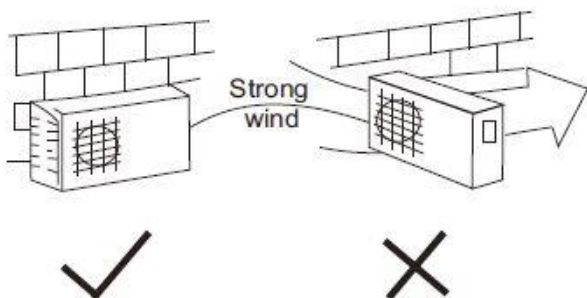

Fig.12
- Bundle the tubing, connecting cable and drain hose securely and evenly with tape as shown in Fig. 12.